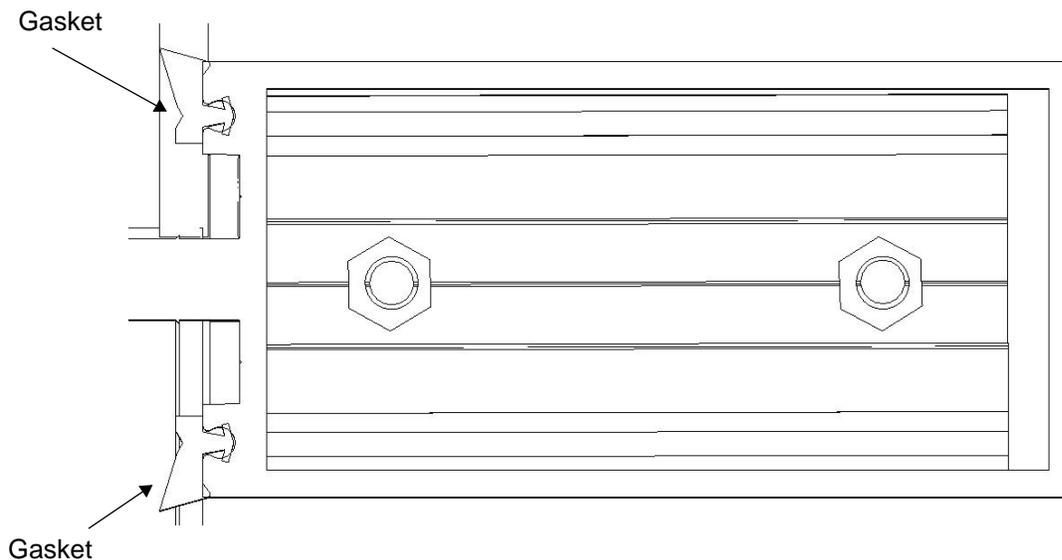

Figure 18: Press the horizontal gaskets into their reglets on the horizontal member.
- Press horizontal gaskets into their reglets on the horizontal back members as shown in Figure 18. Press the ends into the sealant.